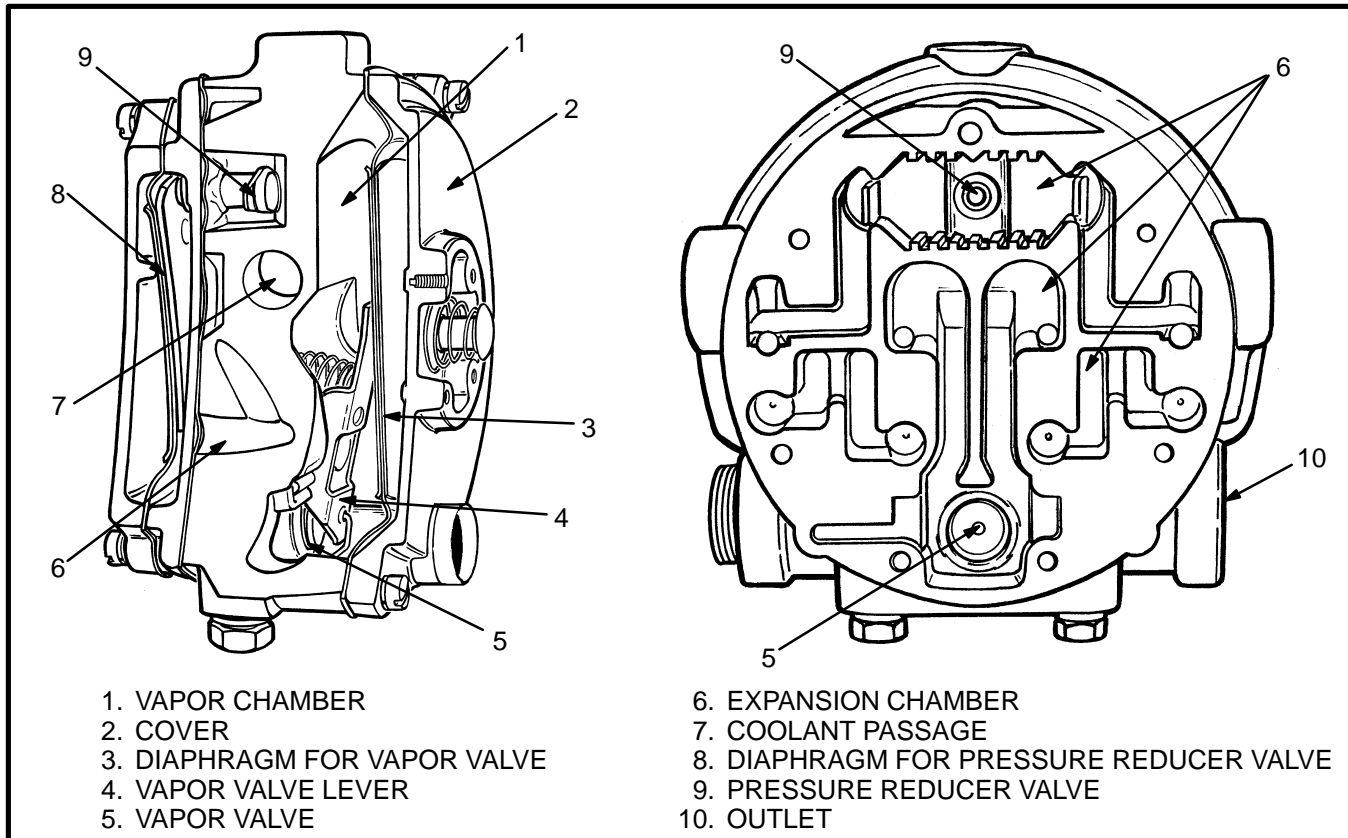

FIGURE 6. INSIDE THE VAPORIZER
5. Slide the inner channel out of the bottom of the next outer channel until there is access to the load rollers. See FIGURE 6.